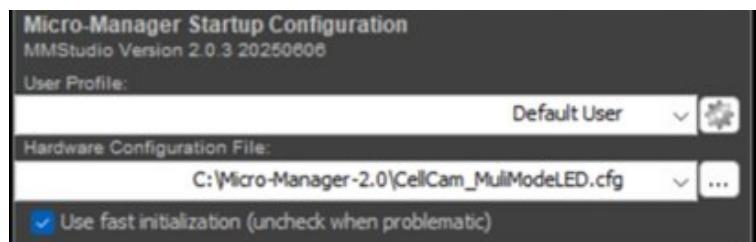

Figure 20: Select the Default user profile and displayed configuration.
- Ensure the hardware configuration file `CellCam_MultimodeLED.cfg` is selected (see Figure 20) before proceeding.